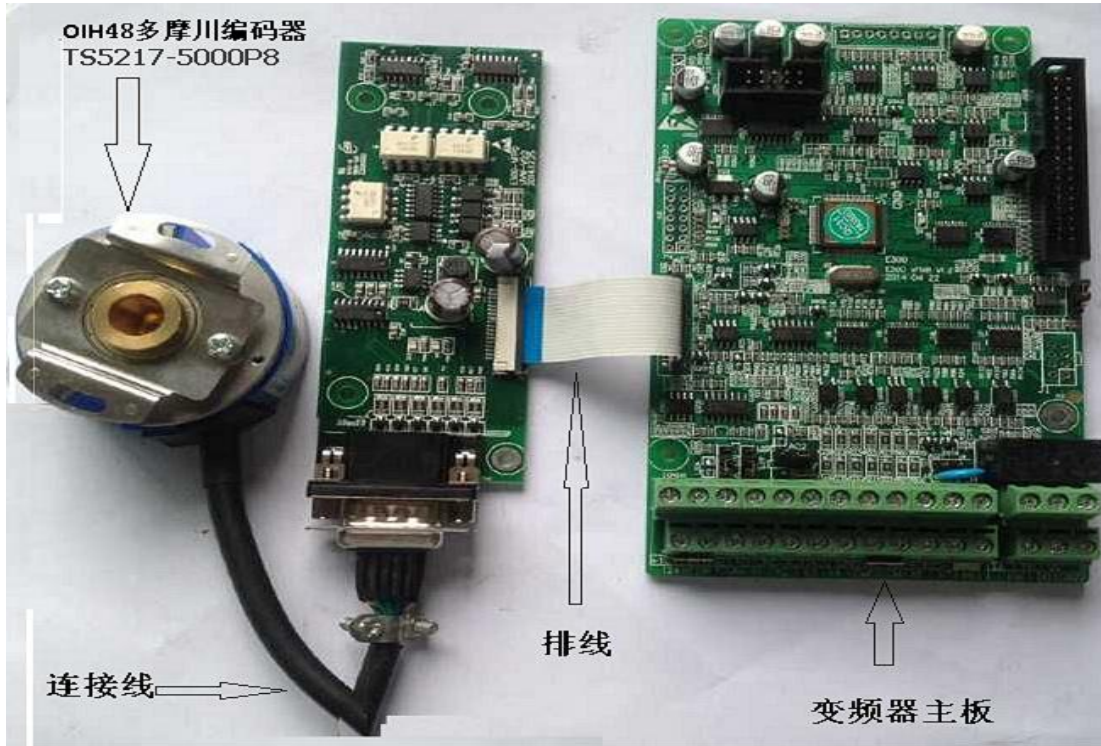

Figure 1: HV610-PG-UVW test
- 2) Connect the **HV610-PG-UVW** card to the rotary photoelectric encoder. As shown in Figure 1 below: